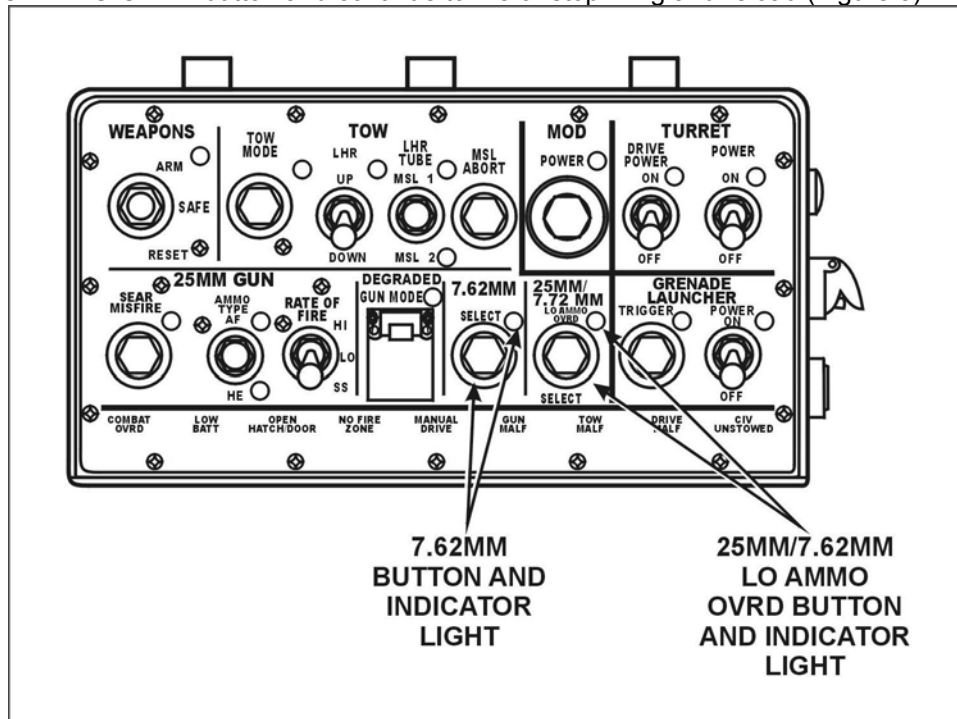

Figure 5. LO AMMO OVRD button.
- NOTE: When the ammunition change is made, the first round fired is the same as the previous round. However, automatic elevation correction for the range is set for the new ammunition selection. If one high explosive (HE) round is fired using the AP superelevation correction, the round will fall short of the target. If one AP round is fired using the HE superelevation correction, the round will fall past the target.
- (1) If the sensing round impacts the target the commander announces "TARGET." The gunner maintains the same sight picture and fire killing bursts (three to five rounds).
- (2) If the sensing rounds do not impact the target, the commander announces "RE-LASE." The gunner recenters the reticle on target, presses the BCIS/ELRF-ELRF switch again, and fires another sensing burst.
- p. If the LO AMMO OVRD indicator light flashes on the system control box (SCB), either push the LO AMMO OVRD button and continue to fire or stop firing and reload (Figure 5).
- a. Select 7.62-mm by pressing the 7.62-mm button (refer to Figure 5).